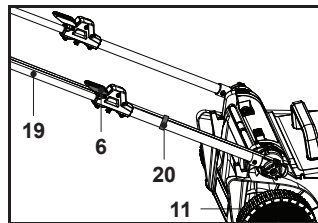

Fig. 4
9. Attach the control cord (19) into the cord clip which is pre-installed under the locking lever (6), then attach the other cord clip (20). (Fig. 4).